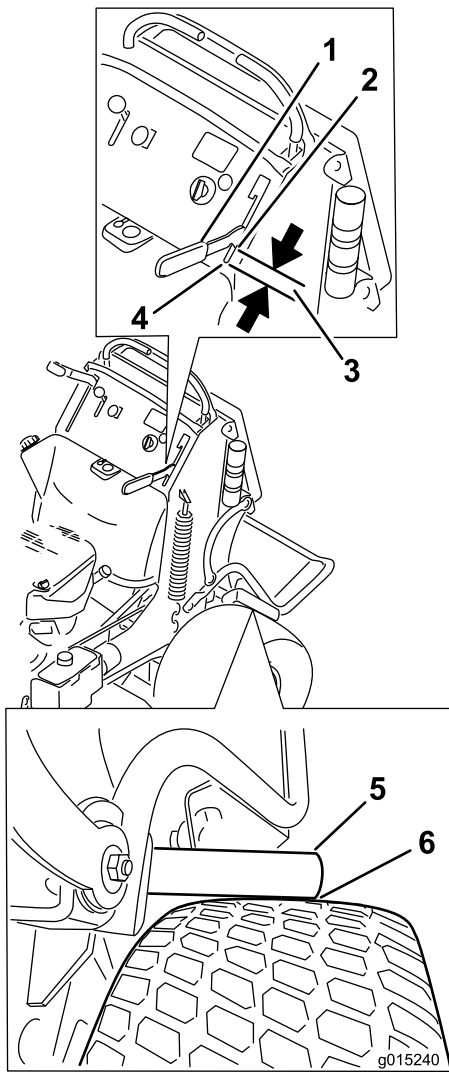

Figure 64
4. Engage the brake lever until the brake bars first contact the tire (Figure 64).
5. Measure the gap from the front of the hand lever to the end of the slot in the control panel when the brake bar contacts the tire. This measurement needs to be 3/4 inch (19 mm). Adjust the brake if needed (Figure 64).